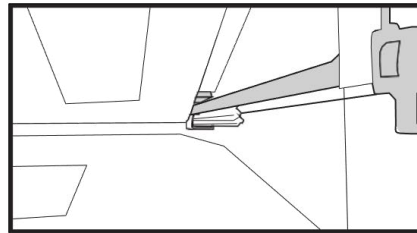

Figure 2
- Using care to not scratch the inside of the refrigerator, place the gaps located at the bottom rear corners of the crisper onto the small extension pieces located at the rear corners of both rails (see Figure 2, red arrow).